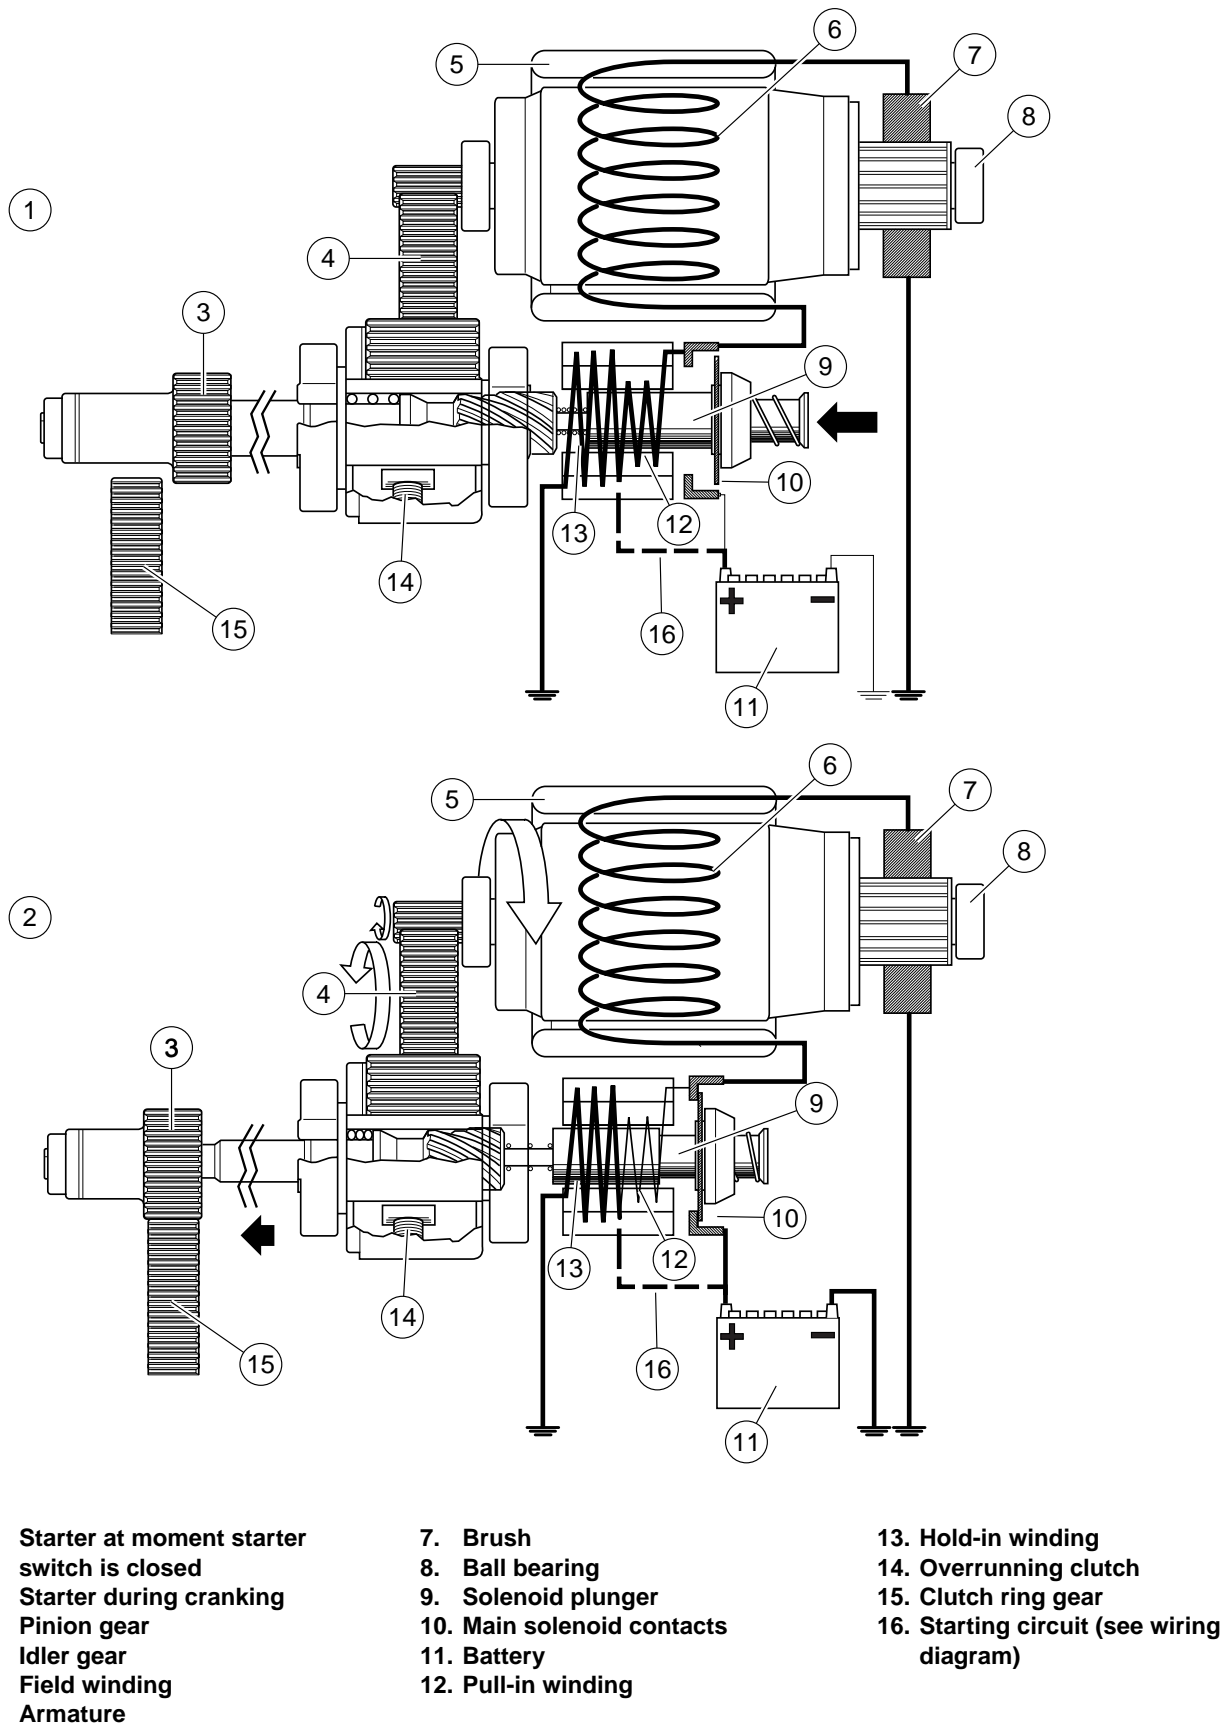

Figure 1-1. Starter Operation
See Figure 1-1. When the starter switch is pushed, the starter relay is activated and battery current flows into the pull-in winding (10) and the hold-in winding (11), to ground. The magnetic forces of the pull-in and hold-in windings in the solenoid push the plunger (7) causing it to shift to the left. This action engages the pinion gear (1) with the clutch ring gear (13). At the same time, the main solenoid contacts (8) are closed, so battery current flows directly through the field windings (3) to the armature (4) and to ground. Simultaneously, the pull-in winding (10) is shorted. The current continues flowing through the hold-in winding (11) keeping the main solenoid contacts (8) closed. At this point, the starter begins to crank the engine. After the engine has started, the pinion gear (1) turns freely on the pinion shaft through the action of the overrunning clutch (12). The overrunning clutch prevents the clutch ring gear (13) (which is now rotating under power from the engine) from turning the armature (4) too fast. When the starter switch is released, the current of the hold-in winding (11) is fed through the main solenoid contacts (8) and the direction of the current in the pull-in winding (10) is reversed. The solenoid plunger (7) is returned to its original position by the return spring, which causes the pinion gear (1) to disengage from the clutch ring gear (13).